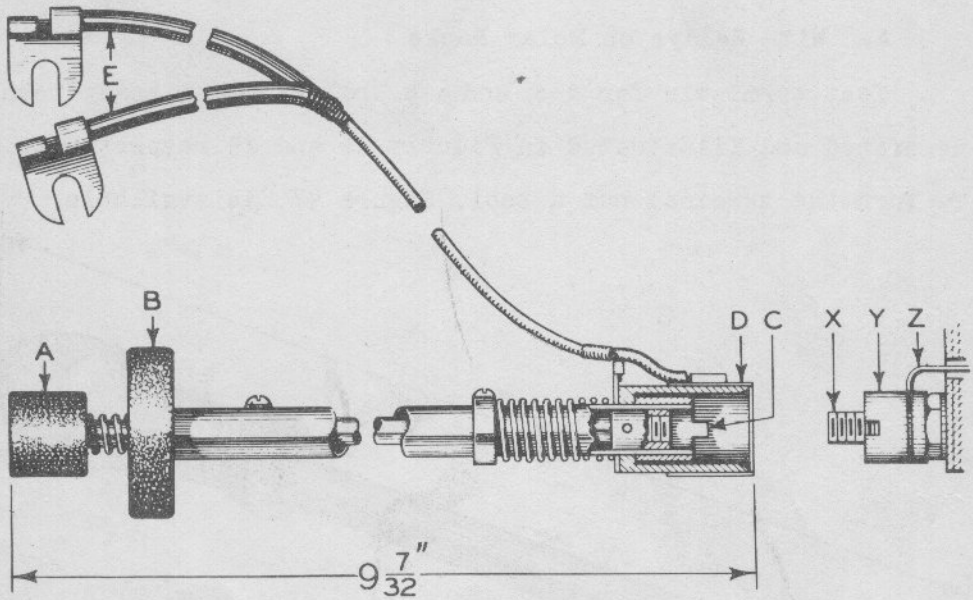

Figure 48. Tool for taking current readings
In order to read the current flowing through the relay winding, and to vary the current to check operating values with the relay on the relay rack, a tool, Figure 48, is provided. In such tests, of course, the service supply is used and not separate battery.
Series using service current and tool, Figure 48.
- (b) Connect leads of tool, Figure 48, to terminals marked "Series Using Service Current-Relay".